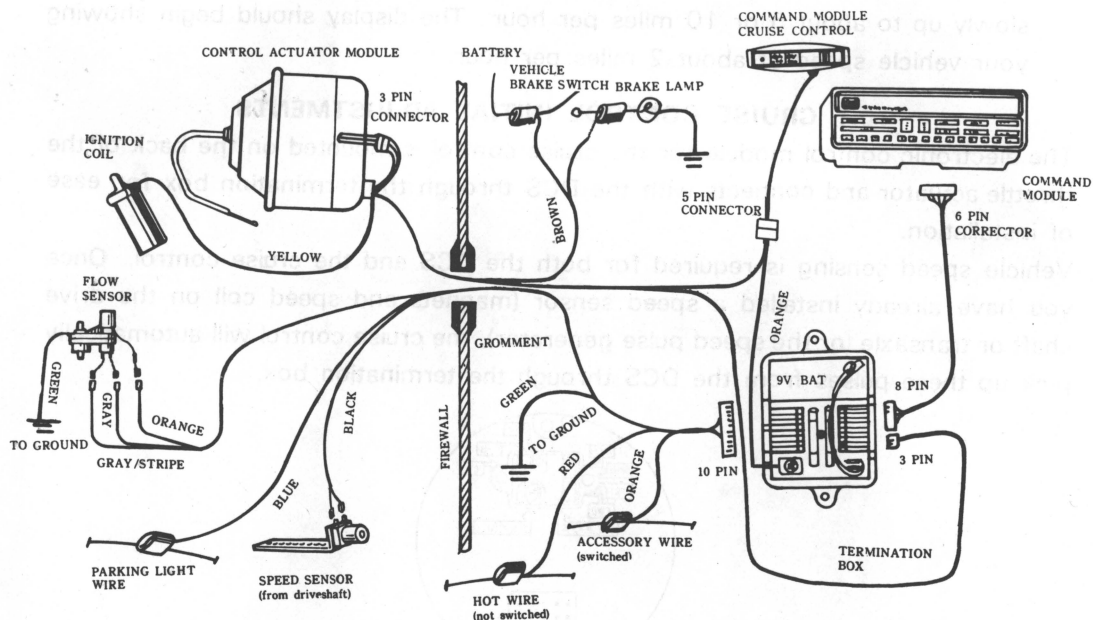

Figure 9.1 WIRING DIAGRAM
1. Refer to the wiring diagram. (Figure 9.1 Page 26).